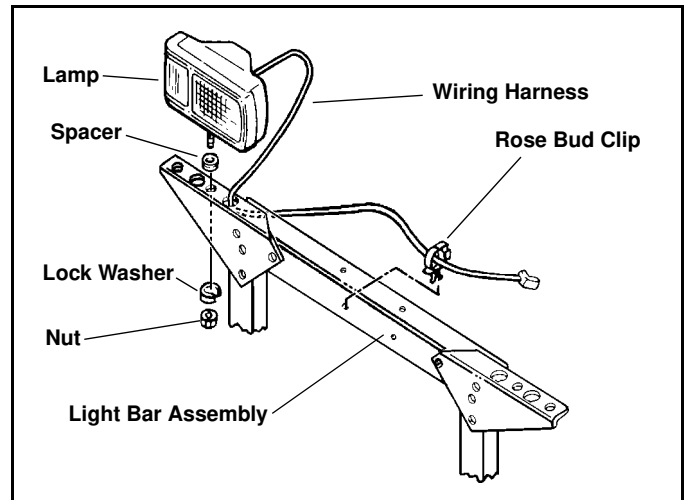

Figure 7
2. Mount Lamps on Upper Channel Assembly. (See Figure 7)
3. Pass Wire Harness attached to Lamps through holes in Upper Channel Assembly. (See Figure 7)
5. Attach Plow section of Wire Harness to Upper Channel Assembly with Rosebud Clips provided. (See Figure 7)